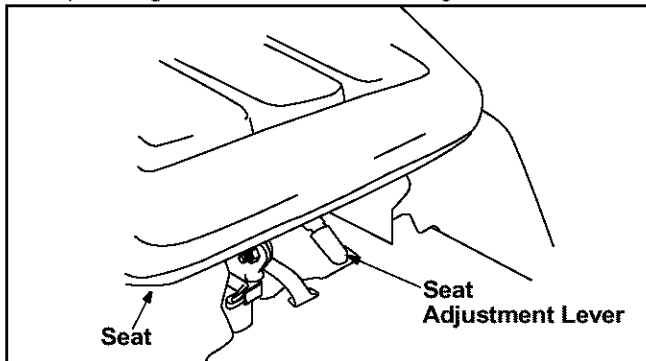

Figure 15
- To adjust the position of the seat, move the seat adjustment lever (located under the seat) to the left and slide the seat forward or backwards. Make sure seat is locked into one of the six positions before operating the lawn tractor. See Figure 15.